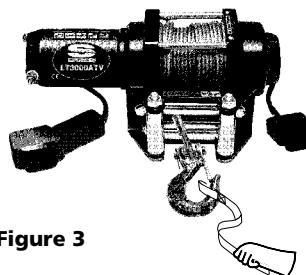

Figure 3
8. KEEP CLEAR OF WINCH, TAUT WIRE ROPE AND HOOK WHEN OPERATING WINCH. Never put your finger through the hook. If your finger should become trapped in the hook, you could lose your finger. **ALWAYS USE THE HANDSAVER** when guiding the wire rope in or out (See Figure 3).